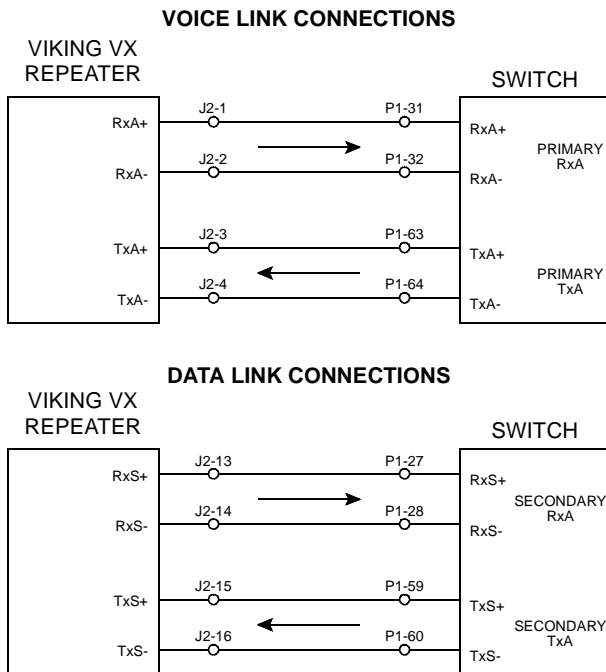

Figure 7-21 VIKING VX VOICE/DATA LINK
2. Connect the link lines to the Switch and its associated CIM (see Figure 7-21).